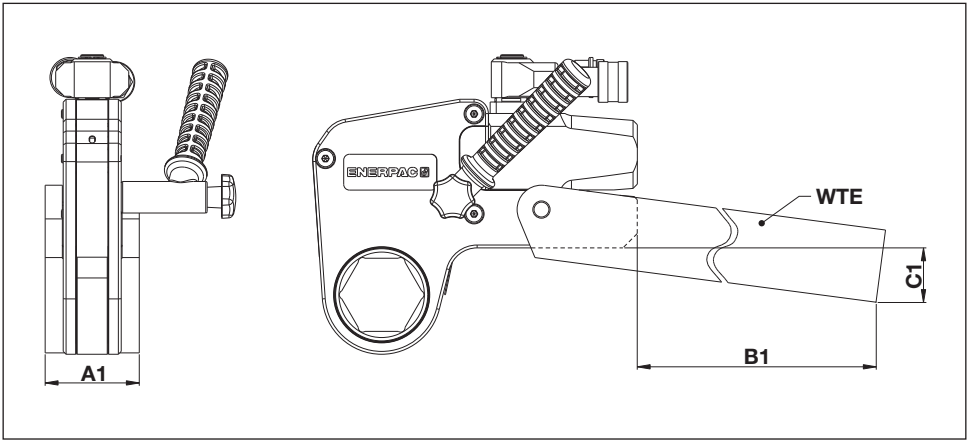

Fig. 23
6.1.1 Dimensions, WTE Series Extended Reaction Arm (Fig. 23)